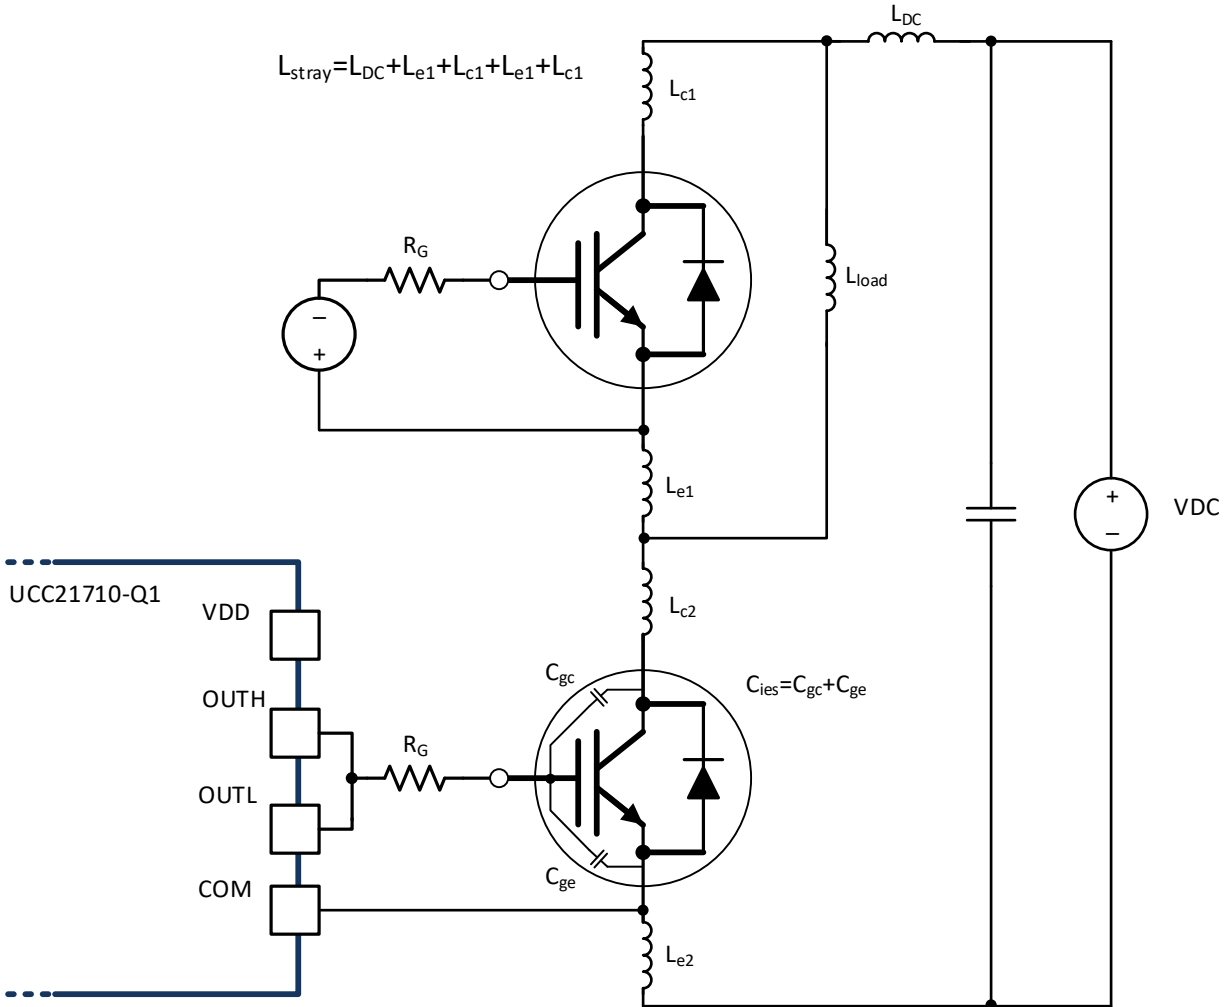

図 8-6. Stray Parasitic Inductance of IGBTs in a Half-Bridge Configuration
- L_{stray} is the stray inductance in power switching loop, as shown in Fig 8-6